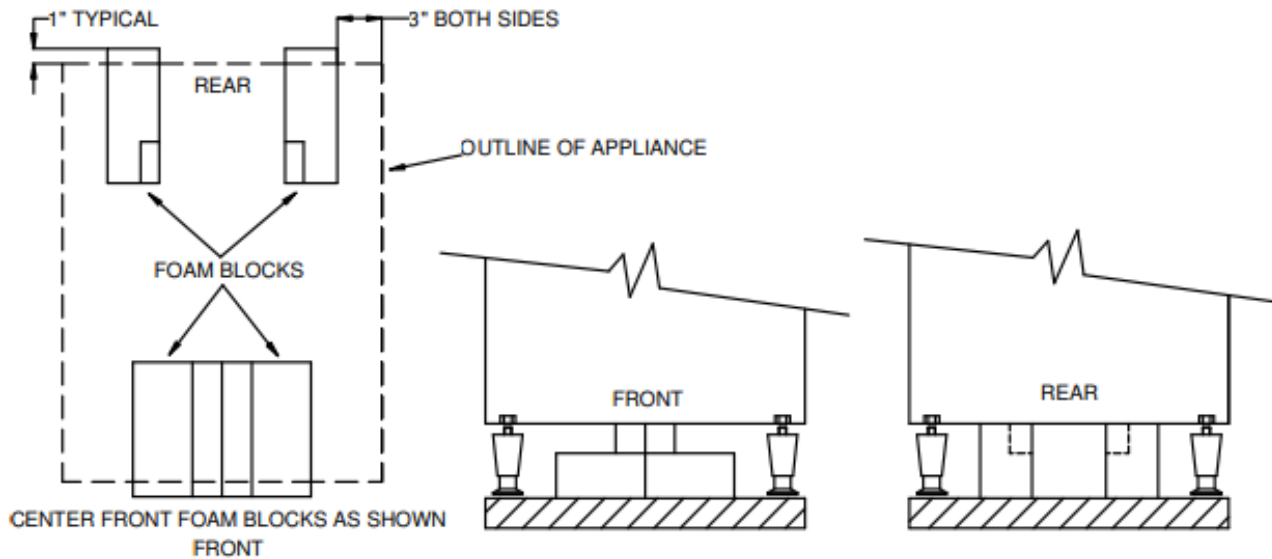

Figure 3-2
- b) Remove the four foam packing blocks from the upper packing assembly and position them on a flat surface (such as the floor) in the pattern shown in Figure 3-2.
- c) Center the SteamChef™ on the blocks as shown in Figure 3-2.